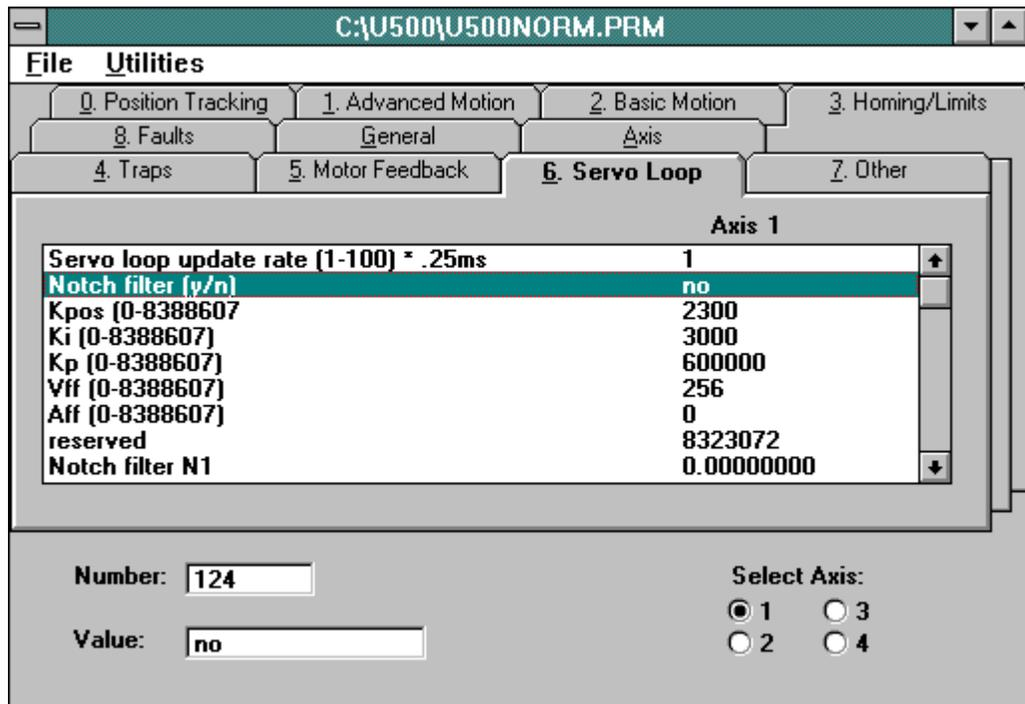

Figure 6-9. Servo Loop Tab of the Edit Parameters Window
2. The “*Servo loop update rate (1-100) x 0.25 ms*” parameter from the Servo Loop tab, shown in Figure 6-9, must be set appropriately in order to get optimal performance from the system. The default update rate is 0.25 ms (4 kHz) and the user would put a 1 as that parameter’s value. Another common choice is 1 ms (1 kHz) and the user would put a 4 as that parameter’s value. Some low resolution systems (500 line encoders, etc.), high inertia systems, or low velocity systems perform better at a lower update rate such as 1 kHz. If the user doesn’t know what to use for this parameter then an update rate of 4 kHz should be used. However, an update rate of 1 kHz can be used. If the update rate is changed, the tuning process must be repeated.
3. Set servo parameters to initial value. While still in the Parameters window (refer to Figure 6-9), enter in the initial values for the servo gains. Table 6-1 has the initial values for these servo gains.